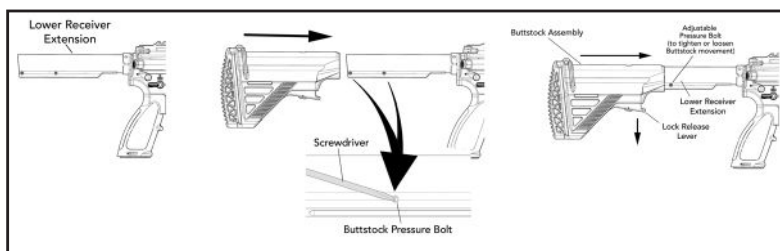

Fig. 50 – Buttstock reassembly
- b. Two small set screws are located on the bottom of the receiver extension (buffer tube). These set screws are provided to eliminate any play that may develop between the buttstock and the extension. The left hand side of the set screw features a detent surface that engages the buttstock. The right hand surface features a cut to accommodate a small straight slot screwdriver. Rotating the set screws clockwise will tighten the detents to the buttstock; rotating the setscrew counter clockwise will loosen the buttstock. Using a straight slot screwdriver, rotate the set screws clockwise using quarter turns and adjust until the detents engage the buttstock but do not hinder removal or installation (Fig. 50)